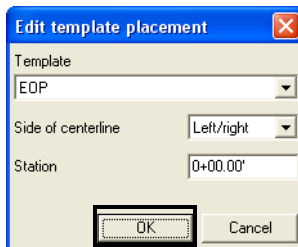

Figure 6-20. Apply Template to Centerline
2. Select the *Template*, the *Side of centerline* to apply it to, and the *Station* to start at. Then press **OK** (Figure 6-20).